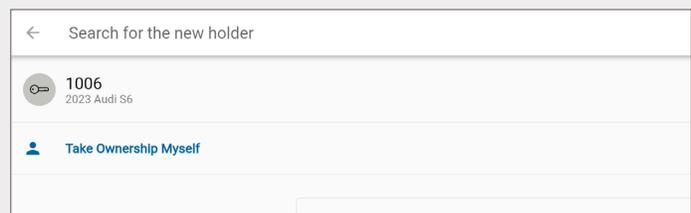

Fig. 114 – Transfer screen – Search for the new holder
7. Alternately, you may choose to transfer ownership of the asset to yourself by selecting **Take Ownership Myself**, as shown in Fig. 114.